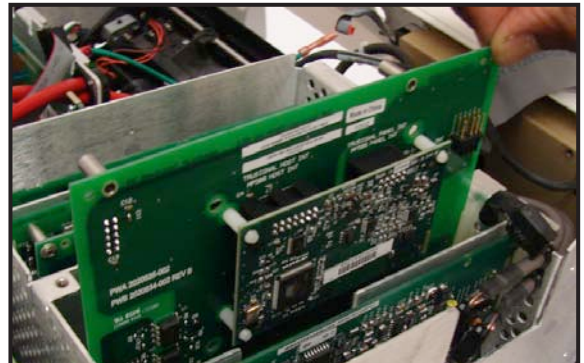

Figure 6-34
6. Pull up the SpO₂ carrier board with Nellcor/Masimo MSpO₂ module assembly to release it from the front-end motherboard (See Figure 6-34).